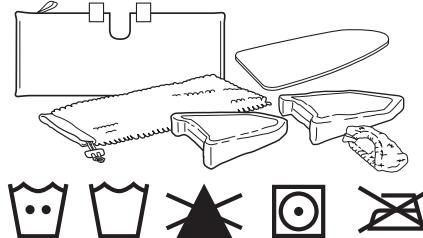

fig. 14
**NEVER USE BLEACH, POWDERED DETERGENT, OR FABRIC SOFTENERS** as they may damage or leave a coating on the Pocket Pads that will reduce their cleaning performance and absorbancy. Pocket Pads should be line-dried or tumble-dried on a low setting, as this will extend the life of the microfiber fabric (fig. 14).